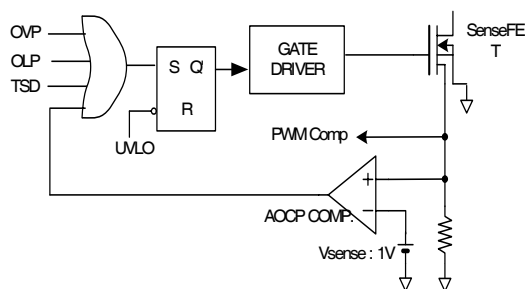

Figure 25. AOCP block
**3.1 Abnormal Over Current Protection (AOCP):** When the secondary rectifying diodes or the transformer pins are shorted, a steep current with extremely high  $di/dt$  can flow during the LEB time. Therefore, the abnormal over-current protection (AOCP) block is added to ensure the reliability, as shown in Figure 25. It turns off the SenseFET within 300ns after the abnormal over-current condition is sensed.